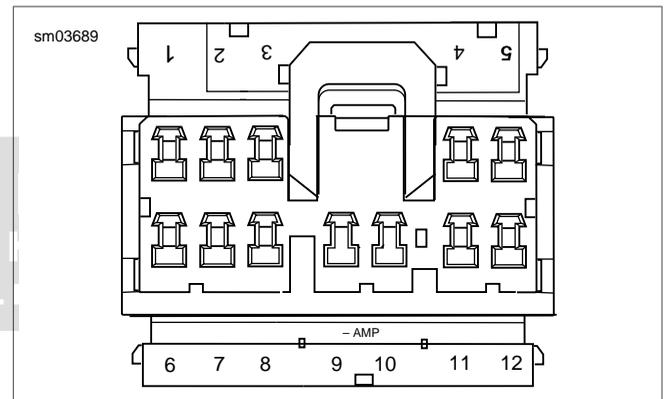

Figure 8-71. Socket Housing (Secondary Locks Open)
9. Follow the wires of the faulty switch to the socket housing, or reference Figure 8-71 and Table 8-13 for the applicable chamber numbers. For wire location purposes, numbers are stamped into the secondary locks of both the pin and socket housings.